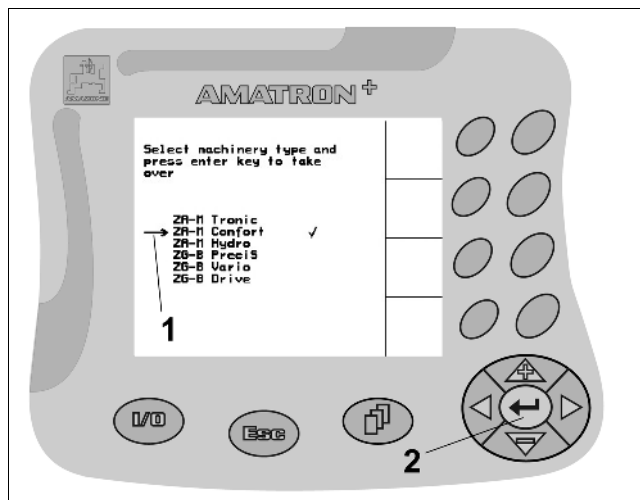

Fig. 14
- Position the selection arrow (Fig. 14/1) with  and .
-  Take over the selection (Fig. 14/2).